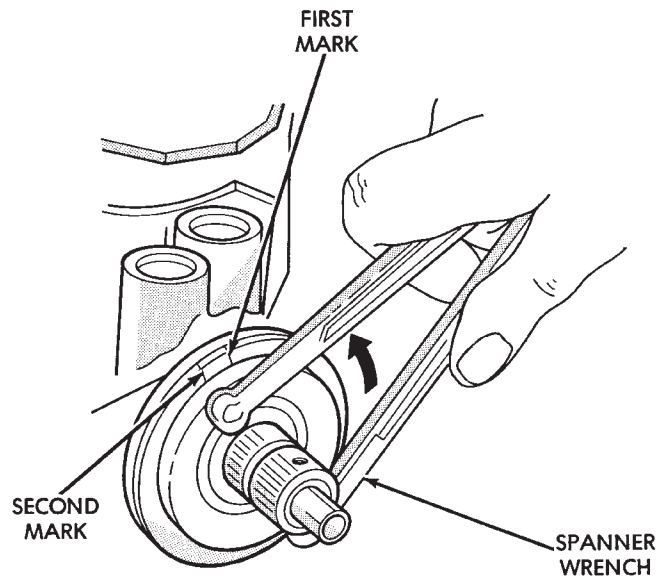

Fig. 11 Aligning To The Second Mark
(5) Rotate adjustment cap back (counterclockwise) with spanner wrench until hole is aligned with the second mark (Fig. 11).